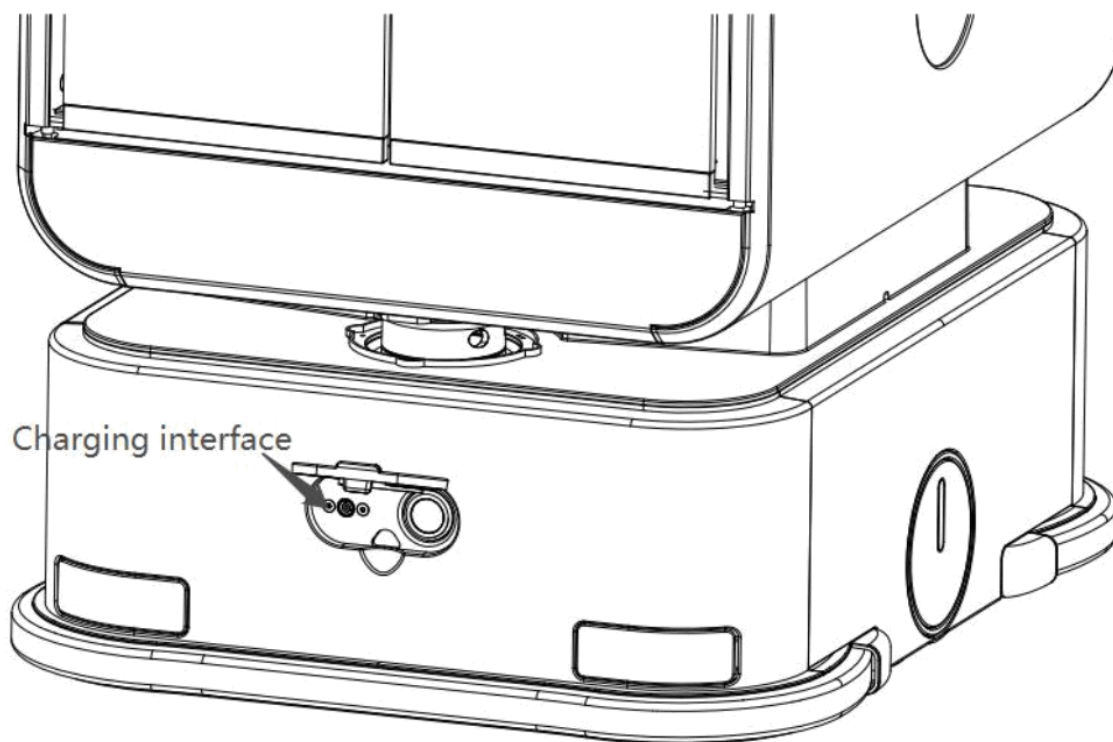

Figure 4 Schematic Diagram of the Position of the Charging interface
2. The PEANUT APP will be automatically opened after the system is started by default. If the PEANUT APP is not systematically opened, the user should find the PEANUT icon on the system desktop, as demonstrated in Figure 4, and the APP can be started by clicking this icon.